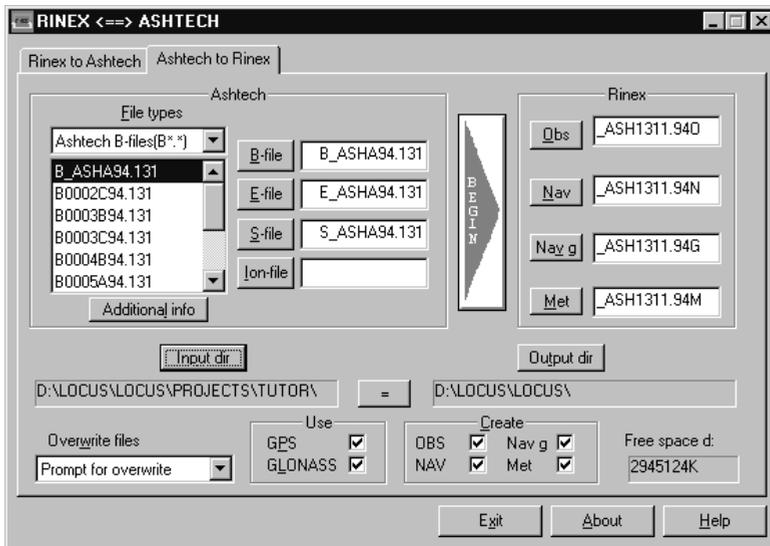

Figure B.6. Ashtech to Rinex Dialog Box
1. Click the **Ashtech to RINEX** tab to switch to the **Ashtech to Rinex** tab (Figure B.6).